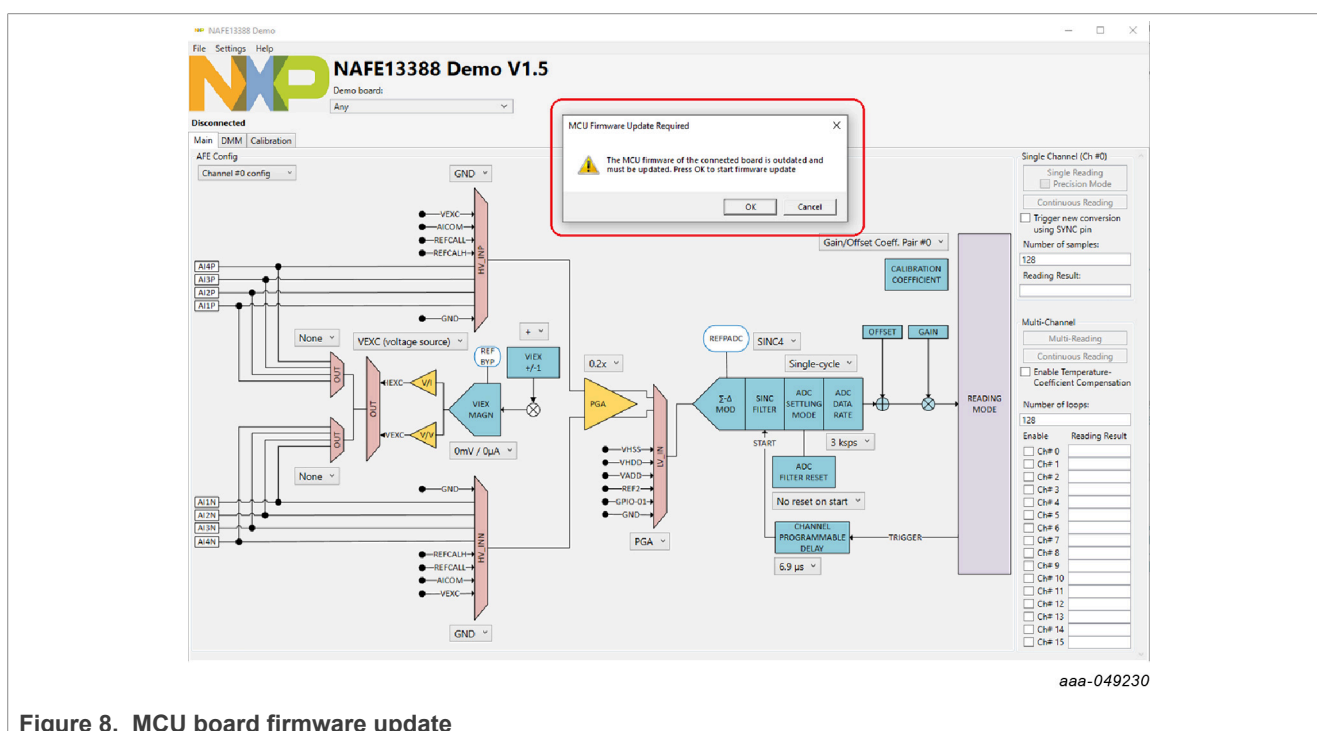

Figure 8. MCU board firmware update
1. The GUI shows an MCU Firmware Update Required message if an older firmware in the MCU board is detected as shown in Figure 8.